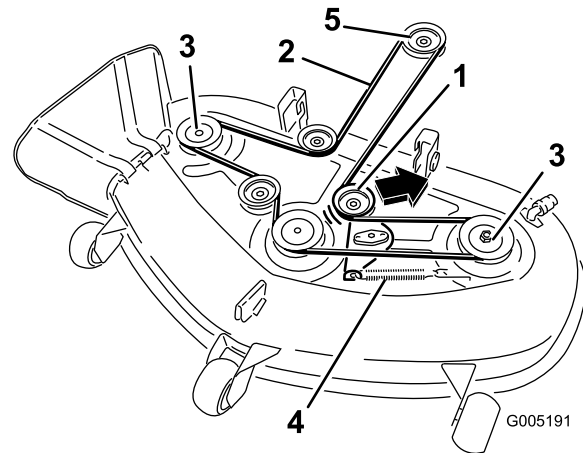

Figure 49
5. Pull the idler pulley in the direction shown in Figure 49 and roll the belt off of the pulleys.
6. Route the new belt around the engine pulley and mower pulleys (Figure 49).
7. Pull the idler pulley in the direction shown in Figure 49 and route the belt onto the idler pulley (Figure 49).